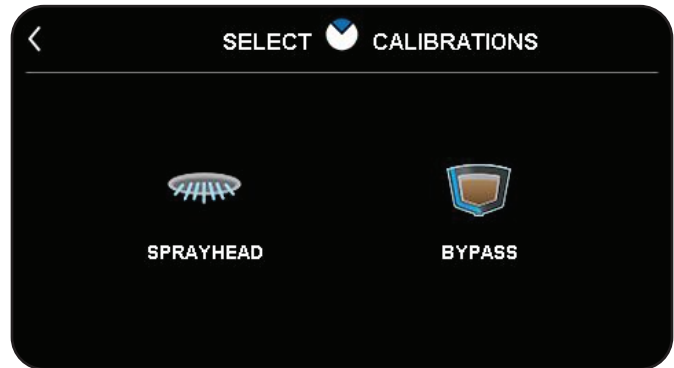

FIG. 38-2 ICB
1. Infusion Series Coffee Brewers. (Fig. 38-2)